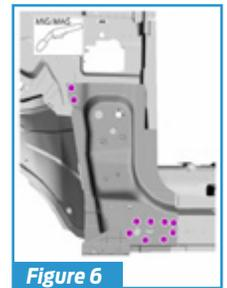

Figure 6
4. Plug-weld the new A-pillar reinforcement, using the MIG/MAG welding equipment (**Figure 6**).